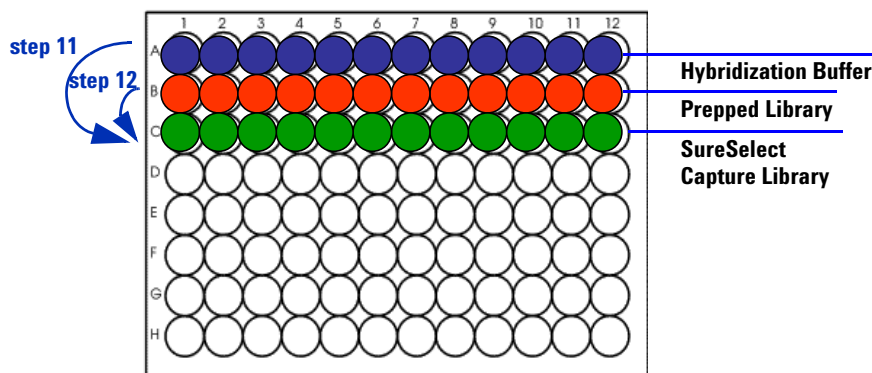

Figure 6 SureSelect Capture Library, or “Baits”, shown in Green
- 11** Maintain the plate at 65°C while you use a multi-channel pipette to take 13 μ L of Hybridization Buffer from the “A” row and add it to the SureSelect capture library mix contained in row “C” of the PCR plate for each sample. (See Figure 6.)
- 12** Maintain the plate at 65°C while you use a multi-channel pipette to transfer the entire contents of each prepped library mix in row “B” to the hybridization solution in row “C”. (See Figure 6.) Mix well by slowly pipetting up and down 8 to 10 times.